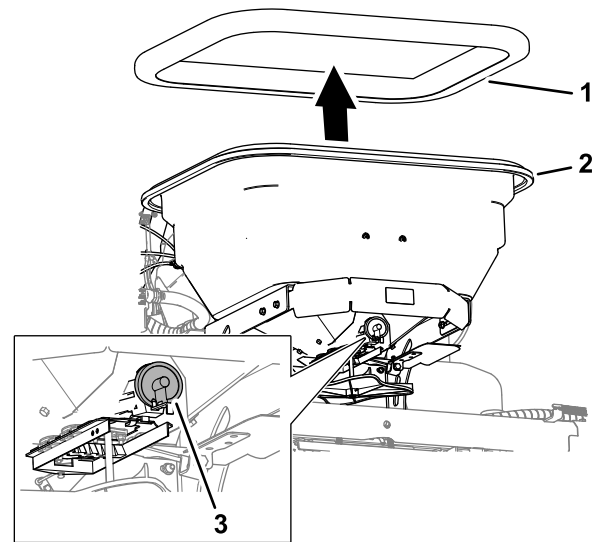

Figure 25
- Use the Spreading Charts (page 31) to determine the setting for the drop-rate cam (Figure 25).
- Remove the cover from the hopper, add the material that you are spreading, and install the cover onto the hopper (Figure 25).